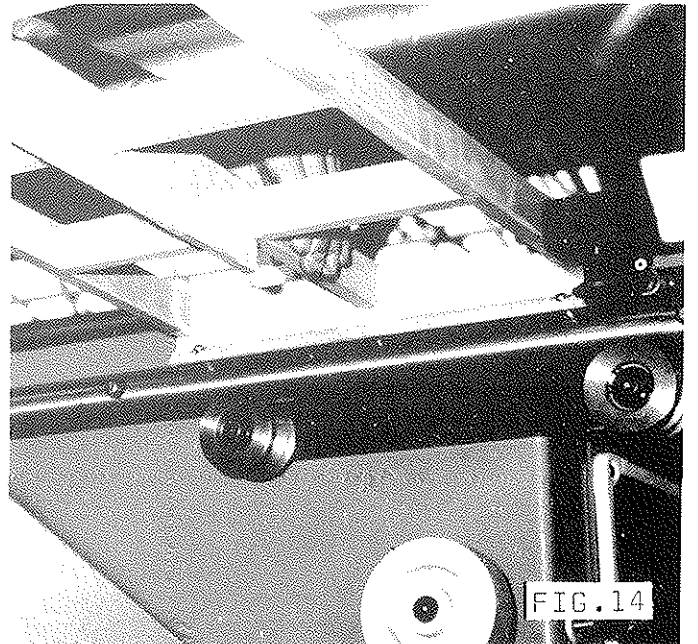
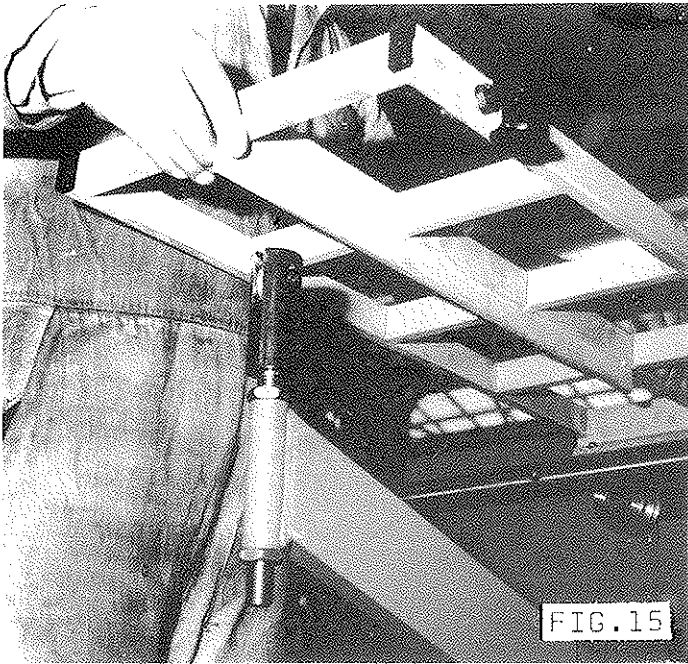

FIG. 14
FIG. 15
- 4) Lift table FIG.14 and locate table on the 2 slide bar studs. Locate nylatron outer support on under table web as shown in FIG.15. Secure table by 2 - M8 aerotight nuts.